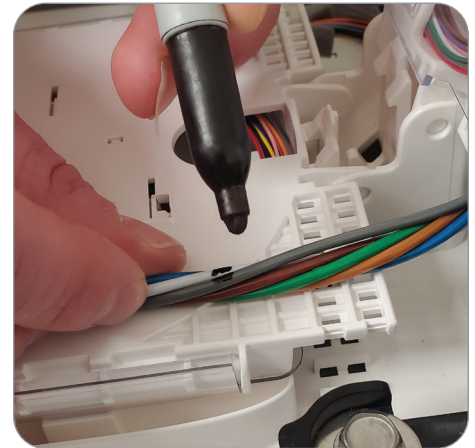

Figure 84
2. Route the appropriate buffer tubes or sub-units to the splice tray and mark slightly beyond the wall of the splice tray (**Figure 84**).